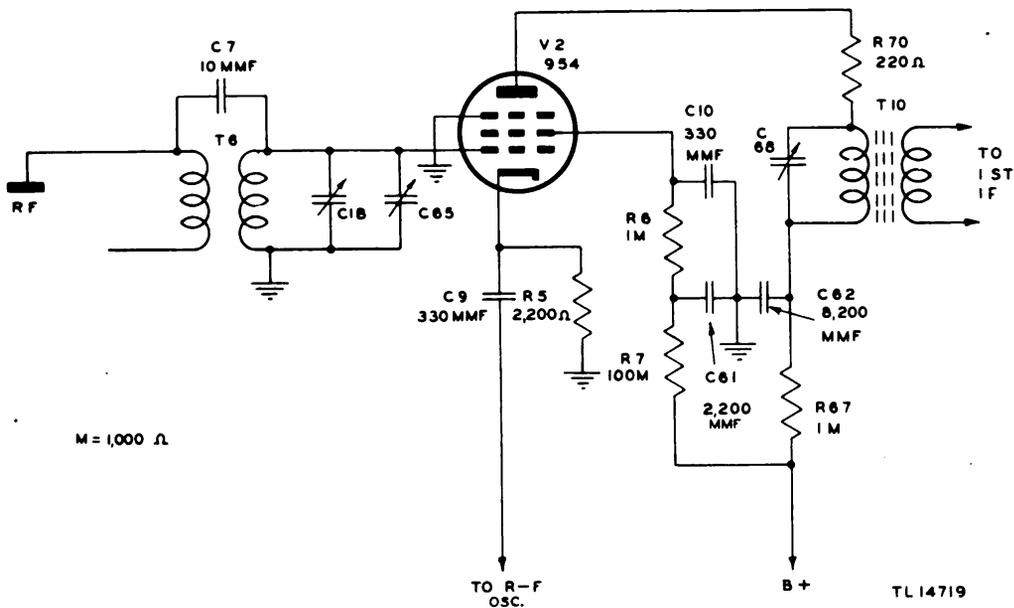

Figure 8. Radio Receiver BC-787-B, converter and mixer schematic.
**d. Converter and Mixer (fig. 8).** The converter-mixer stage utilizes a type 954 acorn pentode tube which, in conjunction with its associated circuit components and the r-f oscillator, converts the incoming signal to an i-f frequency of 5.25 megacycles. The r-f stage output is coupled to the mixer input through transformer T6 and coupling capacitor C7. Tuning capacitor C1B, in conjunction with trimmer capacitor C65, resonates the grid input circuit. Cathode resistor R5 provides self bias. The r-f oscillator signal is applied to the cathode through capacitor C9. The incoming signal applied to the grid of tube V2 and the r-f oscillator output applied to the cathode heterodyne within the tube, producing a third signal at the i-f frequency. This third signal appears across the i-f input transformer T10. Capacitor C68 resonates the primary of transformer T10. Series plate resistor R70 prevents parasitic oscillations. Capacitor C62, in conjunction